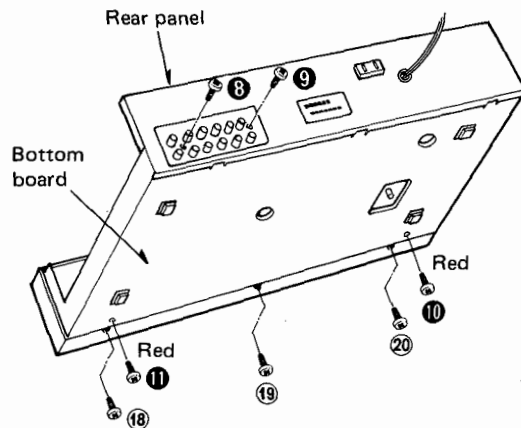
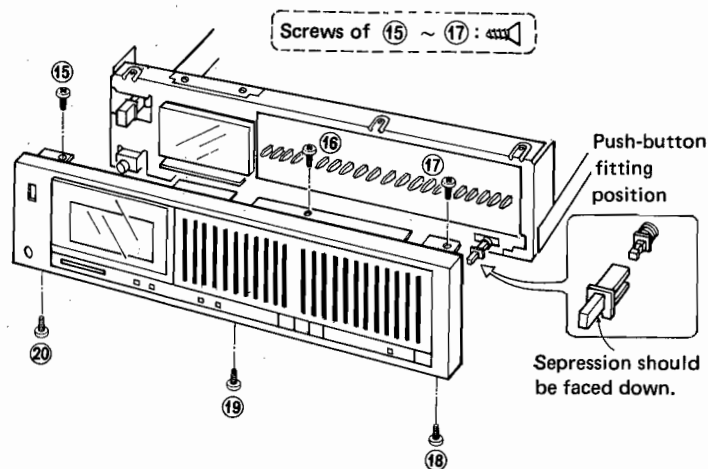

Fig. 2
Fig. 8
2. Remove the screws (Fig. 2: ⑧ ~ ⑪) of the rear panel and the bottom board.
2. Remove screws ⑮ ~ ⑳ as in **Fig. 8**. (For screws ⑮ ~ ⑳, See **Fig. 2**.)
1. Remove the front panel. (See Fig. 8.)